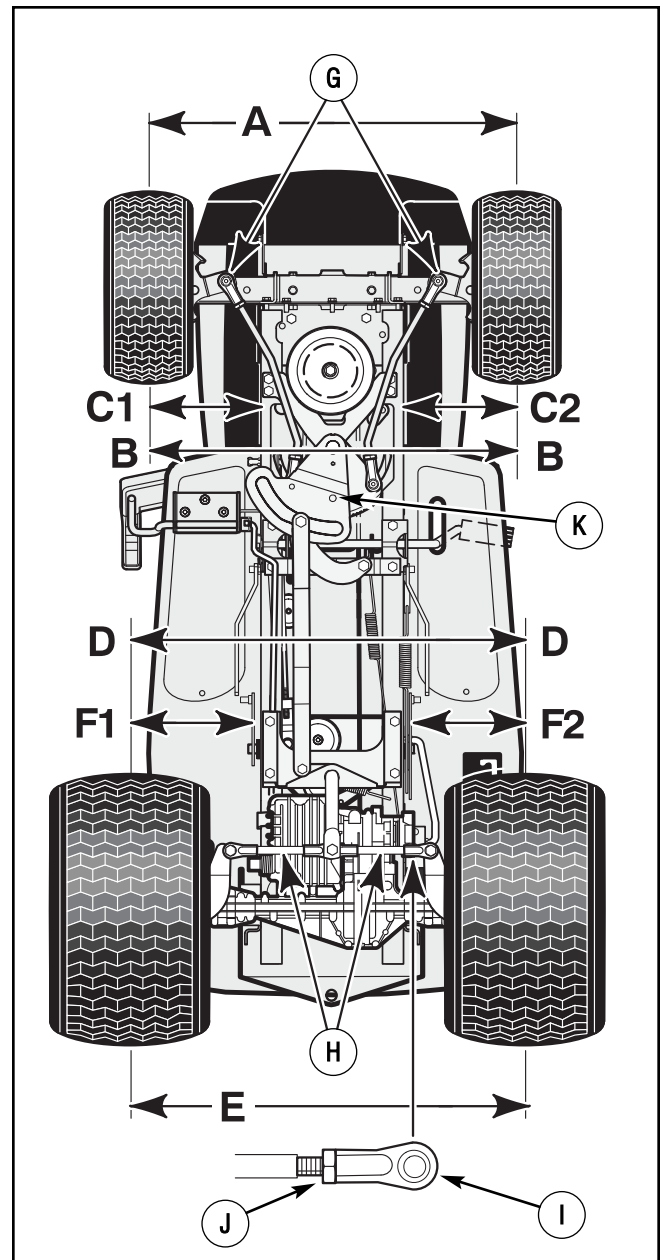

Figure 42: Wheel alignment
2. To maintain alignment between the sector gear and the steering plate during this procedure, insert a 7/16 to 1/2 inch bolt or pin into the hole in the steering plate and through the steering sector gear (see Figure 42).
3. First, check measurements A, B, C1, and C2 (see Figure 42).
If the measurements are not correct, loosen the jam nuts on each of the rear tie rod ends (see Figure 42). Rotate the tie rods until the measurements are correct.